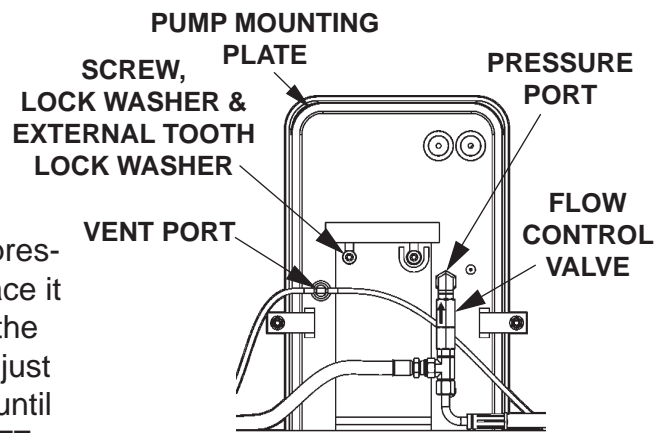

FIG. 77-3
2. Check the Hydraulic Cylinder. With the Platform on the ground, remove the Breather Plug or Vent Line from the Vent Port of the Cylinder (FIG. 77-3). Raise the Platform even with the bed. Allow pump motor to run two seconds more while you watch for hydraulic fluid at the Vent Port. A few drops of hydraulic fluid escaping the Vent Port is normal; however, if it streams from the Vent Port, Piston Seals are worn. Replace Seals.
3. Check and clean Flow Control Valve in high pressure hydraulic line attached to Pump Mounting Plate. When installing Flow Control Valve, make sure it is pointing to the direction of restricted fluid flow (pointing up and back toward pump) (FIG. 77-3).
5. Verify the Pump Motor is grounded to vehicle frame. Make sure external tooth lock washer is installed under Pump mounting screw and flat washer (FIG. 77-3).